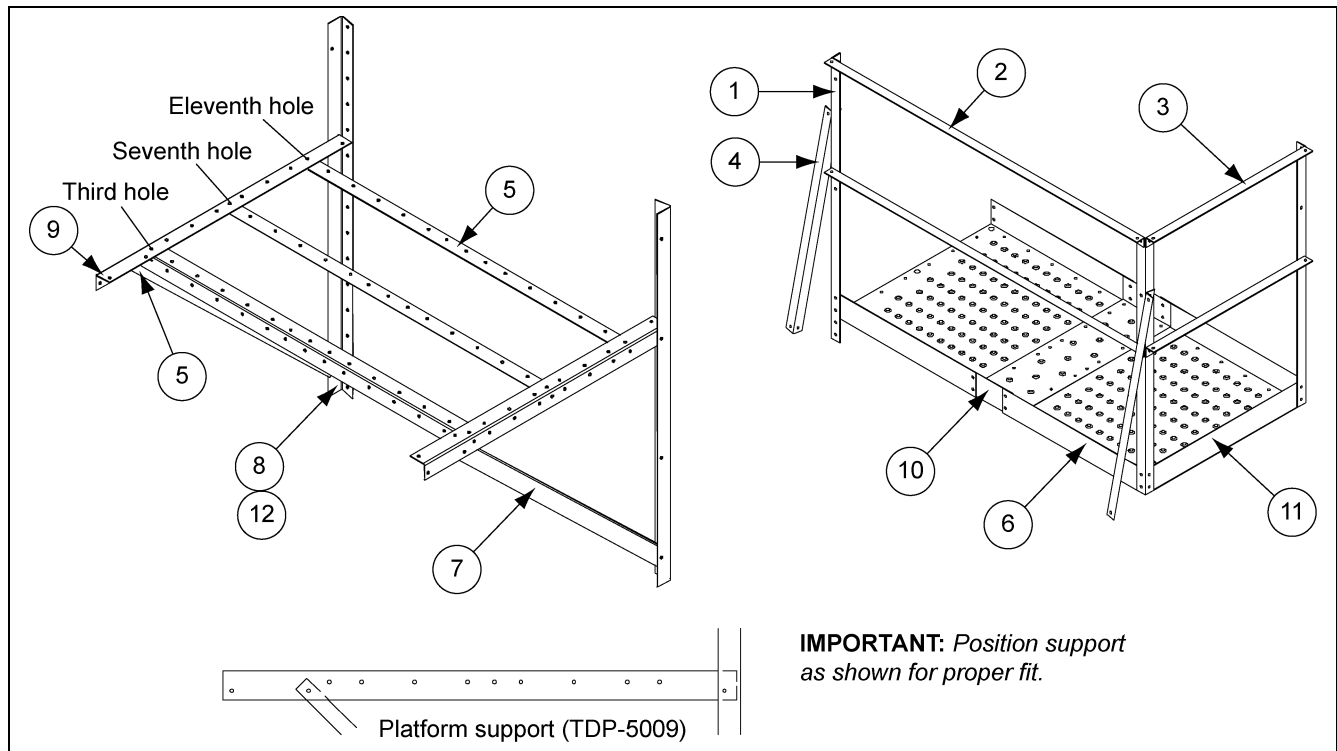

Figure 9N
*Refer to Figure 9N* for proper location of access door platform. Begin by assembling the access door platform support frame using 5/16" x 3/4" truss head bolts and nuts. When attaching platform vertical support to bin sidewall field drill sixteen (16) 3/8" diameter holes for each support spaced every 4". Be sure and use 5/16" x 3/4" bin bolt on vertical support to sidewall. Special attention should be taken when assembling the platform support that the support brace is placed correctly.